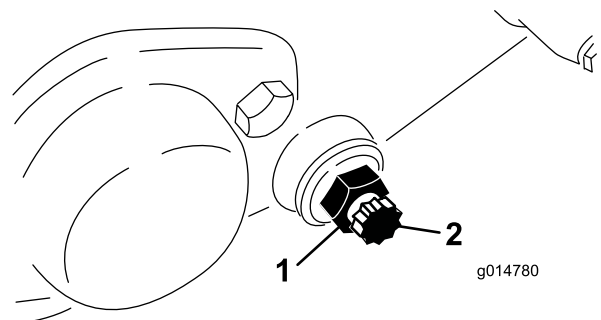

Figure 62
3. On each side of the machine, loosen the jam nut that secures the bedbar bolt (Figure 62).
4. Remove each bedbar bolt allowing the bedbar to be pulled downward and removed from the machine. Save the 2 nylon and 2 stamped steel washers on each end of the bedbar (Figure 62).